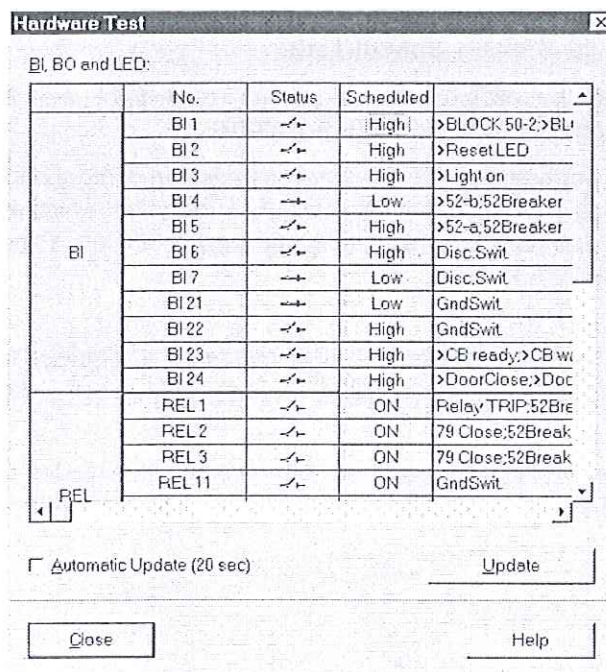

Figure 3-15 Dialogue box for hardware test — example
- ☐ Double-click in the list view on **Hardware Test**. The dialogue box of the same name opens (see Figure 3-15).